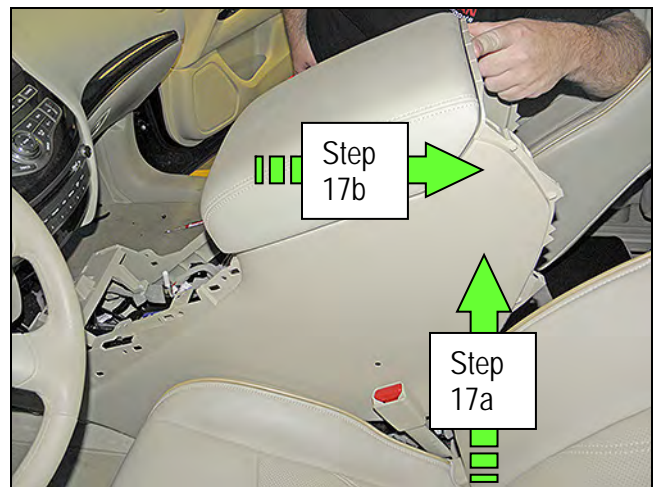

Figure 33B
15. Remove the center console (Figure 33B).